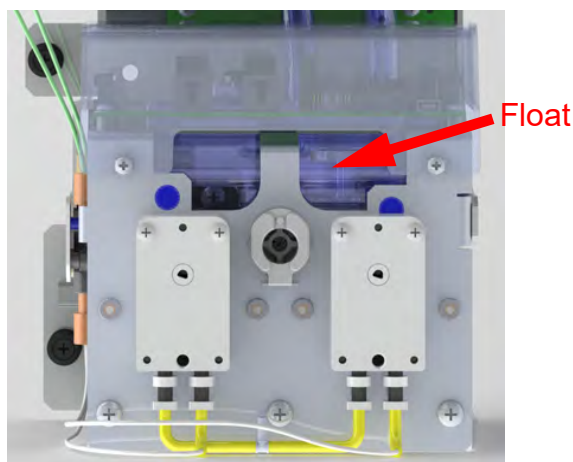

Figure 53: Water Reservoir with Float
NOTE: *The float should be just below the top of the reservoir. Do not overfill (Figure 53).*
8. Verify that the water line is **just below** the top of the reservoir (Figure 53). Add water as needed. See “To fill the DI water reservoir” on page 202).